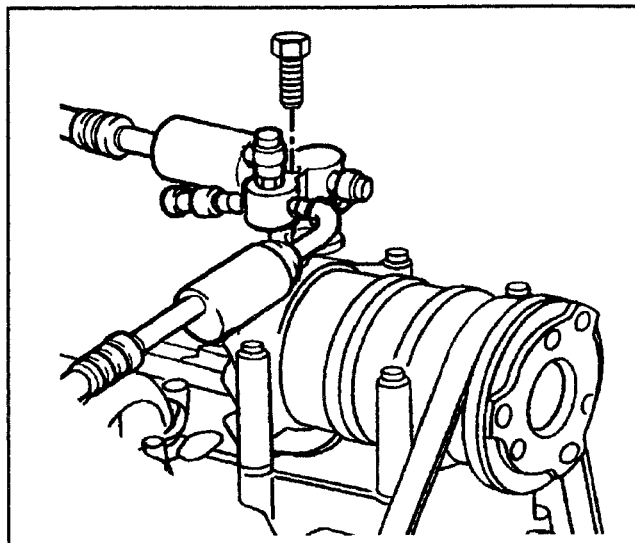

Figure 29—Sealing Washer Installation (2 of 2)
2. Install hose block to the compressor. Make sure the sealing washers are seated within the compressor machined surfaces (Figure 29).